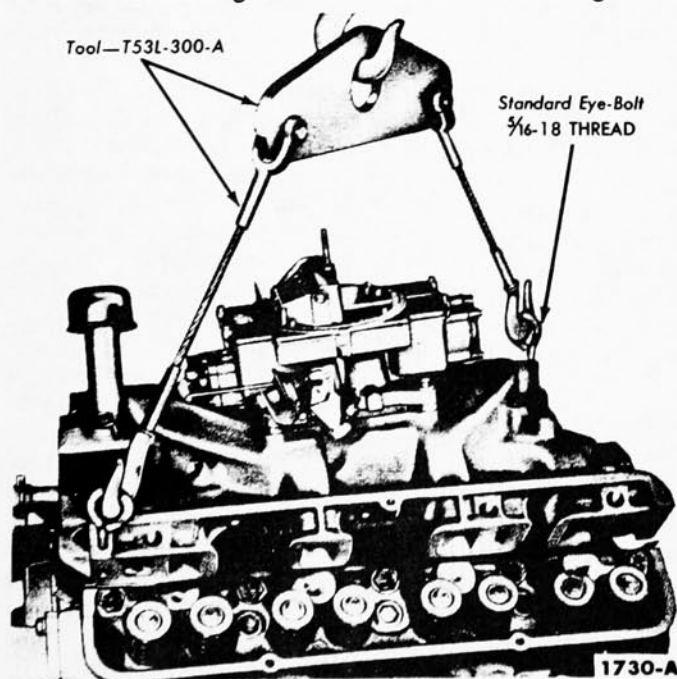

FIG. 15—Intake Manifold Removal or Installation
8. Install standard eye bolts with 5/16-18 threads in the left front and right rear rocker arm cover screw holes and attach the engine lifting sling (Fig. 15).